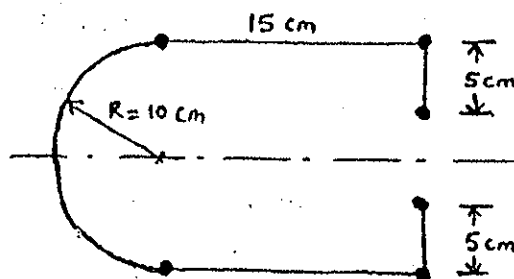

Fig. 4
13. (a) Find the shear flow distribution and locate the shear center for the section shown in Fig. 4. Each of the stringers has an area of 4 cm^2 and the section is subjected vertical shear of 50 kN .